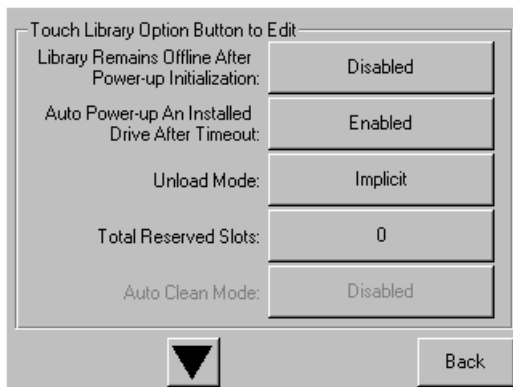

Figure 27: Total reserved slots screen
2. On the **Library** options screen, press the ▼ to scroll to the screen that contains the **Total Reserved Slots** option (see Figure 27).